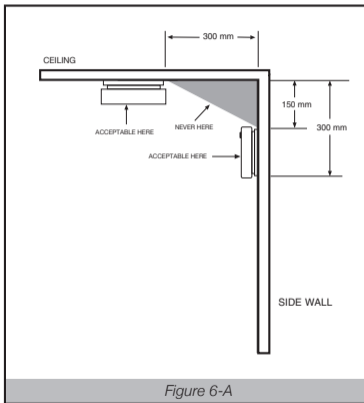

Figure 6-A
- Install smoke alarms on the ceiling of tray-shaped ceilings, or within 300 mm of the ceiling. **(Figure 6-D)**